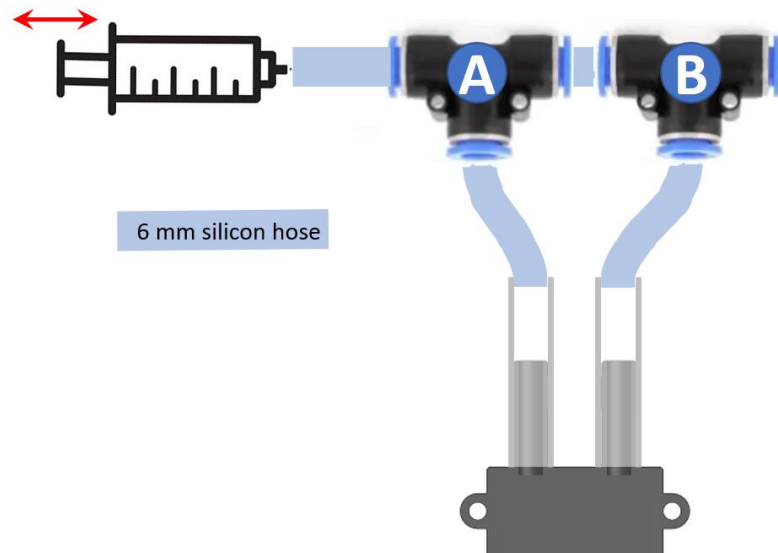

Figure 5: Setup for analysing Bernoulli equation and Flow resistance
7. Prepare the measurement setup as shown in figure 5. The 6 mm silicon hose has an outer diameter (OD) of 6 mm and an inner diameter (ID) of 4 mm. Take a recording when you open the syringe such that a volume flow is established of $1 \frac{\text{mm}^3}{\text{s}}$. Repeat the experiment by closing the syringe with the same speed. What pressure difference would you expect if you assume a measurement as discussed with the Venturi-Meter and what do you observe? How can you explain the difference? (Details about the push-in connector you will find here: <https://www.festo.com/media/pim/987/D15000100122987.PDF>, page 38).
8. Modify the experimental setup of figure 5 by adding the 25 cm silicone tube (OD: 4 mm, ID: 2.5 mm) between the two T-joints. Compute the theoretical fluid resistance of the added silicone tube using the equation $R_{ST} = \frac{8\mu L}{\pi R^4}$, where L is the length of the tube and R is the radius of the tube. The dynamic viscosity μ of air can be assumed with $\mu = 18.4 \cdot 10^{-6} \text{Pa} \cdot \text{s}$. With the fluid resistance you can calculate the expected pressure drop Δp when you have a volume flow of $\dot{V} = 2 \frac{\text{ml}}{\text{s}}$. Conduct the experiment and compare theoretical and experimental values. Repeat the measurement with $\dot{V} = [1, 5, 10] \frac{\text{ml}}{\text{s}}$, and explore if the relation between pressure drop and volume flow rate is linear.